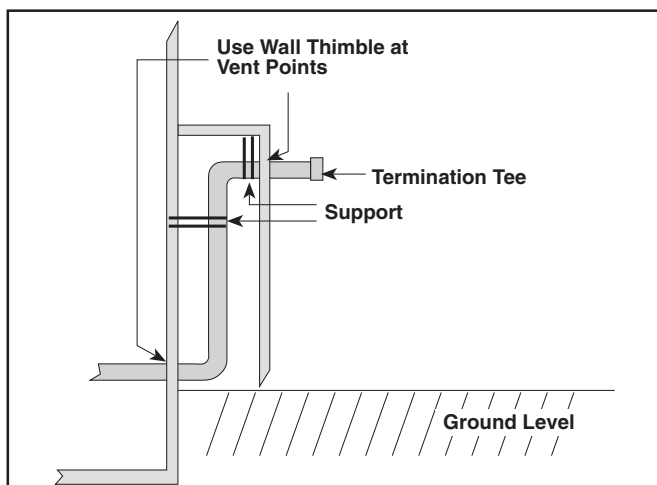

Figure 20. Alternate Horizontal Vent Installation
8. When penetrating a noncombustible wall, the hole through the wall must be large enough to maintain the pitch, pipe clearance for passage, and provide for proper sealing. Penetrating a combustible wall requires the use of a wall thimble. (See Figure 20.) A 6-1/2 inch square framed opening is required to insert the thimble halves. The thimble is adjustable to varying wall thickness and is held in place by applying sealant to the male sleeve before assembly. Also run a bead of sealant around the outer wall thimble.